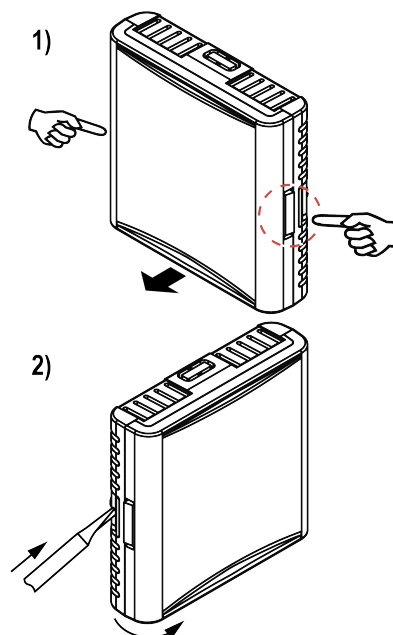

Fig. 7.2 Removing the cover
1. Simultaneously press the latches on the device cover with the thumb and middle finger of one hand and pull the cover (see Figure 7.2 \(1\)) or insert a flat screwdriver home into the groove of the bracket, along the bevel of the latch, and remove the cover (see Figure 7.2 \(2\)).